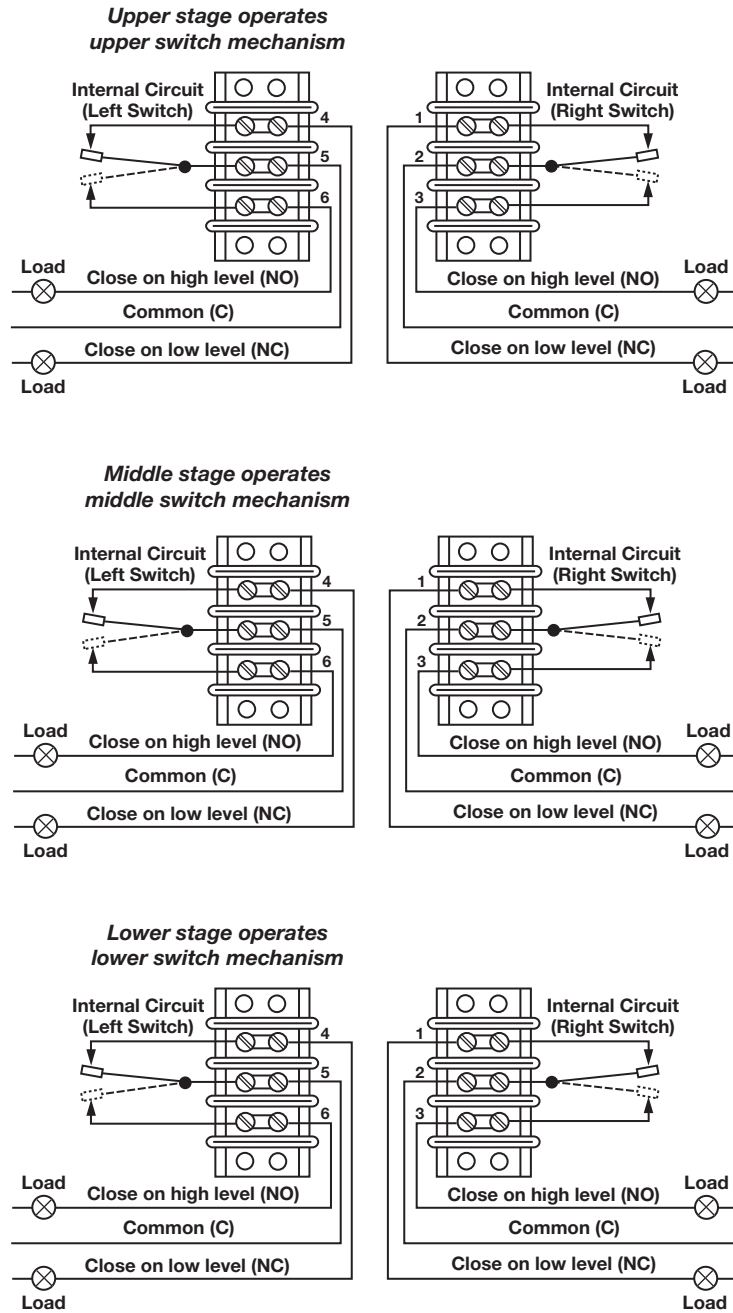

Figure 15
1. Rising level closes contacts 5 & 6 and 2 & 3, see Figure 15.